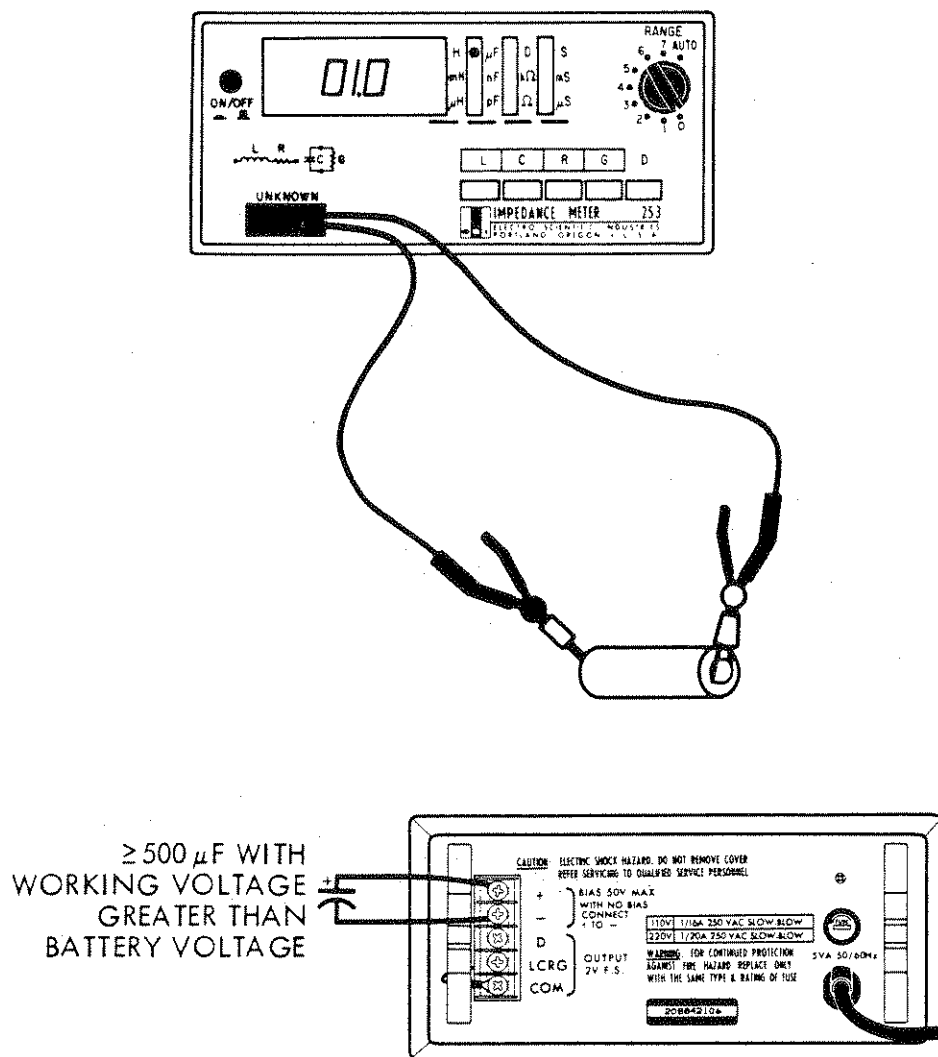

Figure 2-14. Measuring Battery Impedance
3. Connect a  $500\mu\text{F}$  (or larger) capacitor, whose working voltage is greater than the rated voltage of the battery, to the bias terminals (see Figure 2-14). Observe correct polarity when connecting the capacitor.
4. Connect the test leads with the red hinge-spool to the positive battery terminal and the lead with the black hinge-spool to the negative terminal (see Figure 2-14).
The Ls function must be used to measure the series capacitance of a battery. Instrument set up is the same as for Rs measurements (Figure 2-14). A negative reading will be shown, and the following equation must be used to convert the "-Ls" reading to "+Cs" values: